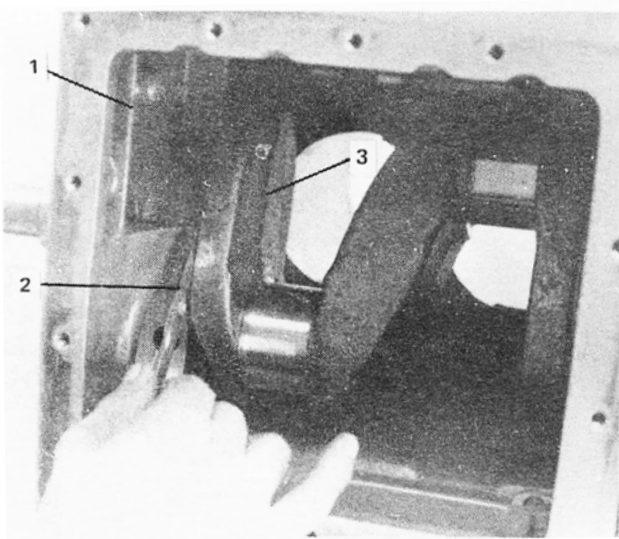

Figure 27
5. Measure the end float of the crankshaft with a feeler gauge at the crankshaft rear bearing position as shown in Figure 27. If the end float exceeds the specified limit page 28, replace the thrust bearing.